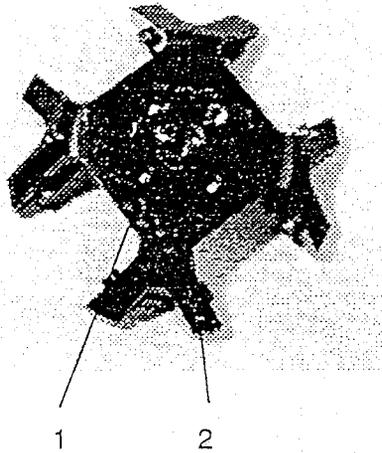

Figure 5
Clean the motor shaft (3), as well as the rotor mounting hole (2) with a piece of cloth and place the rotor on the motor shaft ensuring that the pins (4) align correctly with the rotor slots (1). Secure the rotor to the shaft by turning the rotor nut counter-clockwise (see figure 5 + 6).